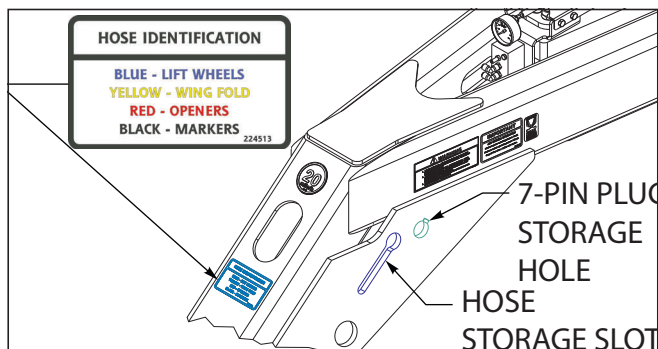

Figure 5-2: Hose Decal
1. The hydraulic hoses are color coded to help identify and match the attaching hoses on the Grain Drill. An identification decal is placed on the front of the hitch to help identify the hoses See Figure 5-2.
f. Disconnect the hydraulic hoses and place in the storage slots on the sides of the hitch *See Figure 5-2*.
g. Unplug the seven-pin electrical connector and store in the hole on the either side of the hitch *See Figure 5-2*.